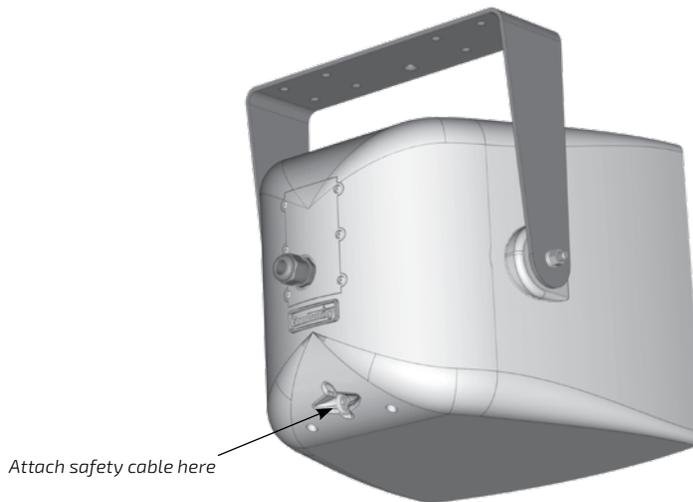

Figure 4. Attach the safety cable
4. Attach a safety cable to the integrated eyebolt on the rear of each loudspeaker (see Figure 4). The safety cable and hardware are not included. Please consult a structural engineer for the appropriate cable for the load and application. The safety cable must be secured to a suitable load-bearing point separate from the loudspeaker mounting point, with as little slack as possible, so as not to develop undue kinetic force if the primary mounting were to fail.